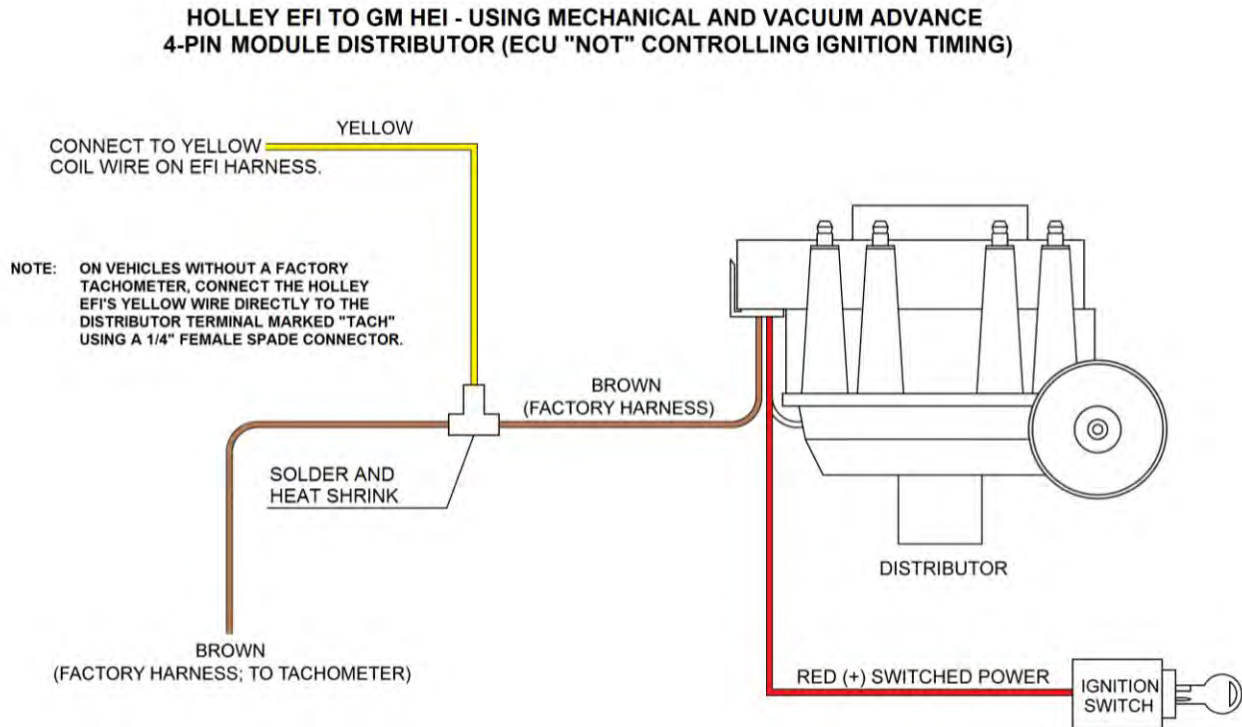

Figure 31
- 1) Any General Motors engine equipped with a factory large cap HEI distributor equipped with mechanical/vacuum advance (Figure 31).
Figure 31 below shows how to connect to a large cap HEI distributor.